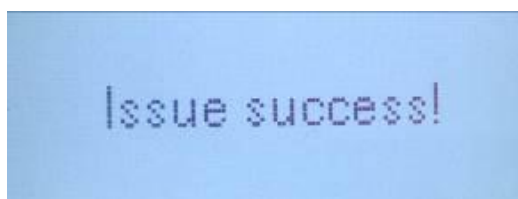

Figure 4-14
- g) System pops up the following interface if you successfully issued the card. See Figure 4-14. Click “#” to return and you can issue card for more rooms.